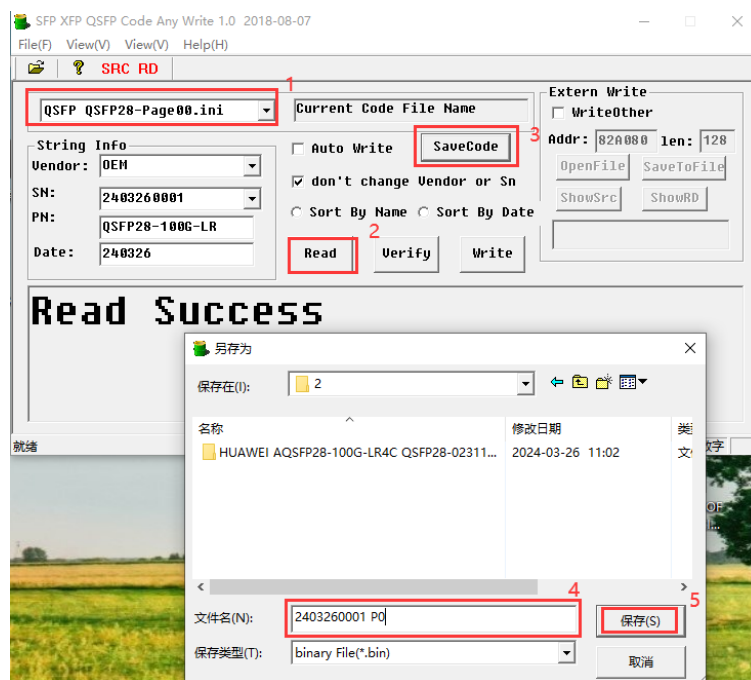

Figure 19
For QSFP+/QSFP28/QSFP56 optical transceivers/DAC/AOC, you can use the "QSFP QSFP28-Page00.ini" configuration file to read the code(as shown in Figure 19).
2.2 Click the "Read" (as shown in Figure 19)
2.3 Click the "SaveCode" (as shown in Figure 19)
2.4 Name the code (as shown in Figure 19)
2.5 Save the code to your computer (as shown in Figure 19)